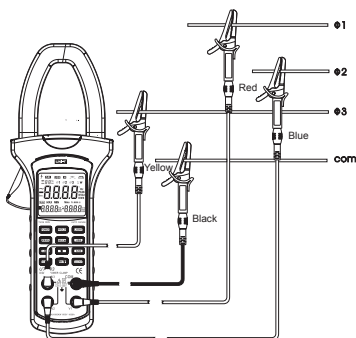

Figure 30
1. Press the **MENU** to select AC Voltage (main display) + AC Voltage (left secondary display) + AC Voltage (right secondary display) range as figure 30.